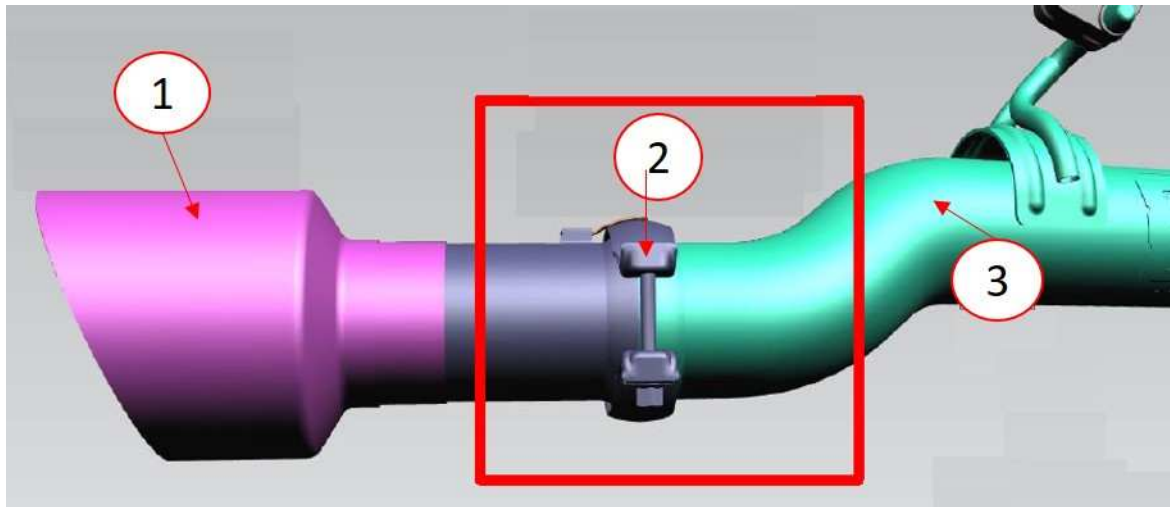

Fig. 3
2. Orientate the clamp for proper fit (Fig. 3) to the exhaust pipe.